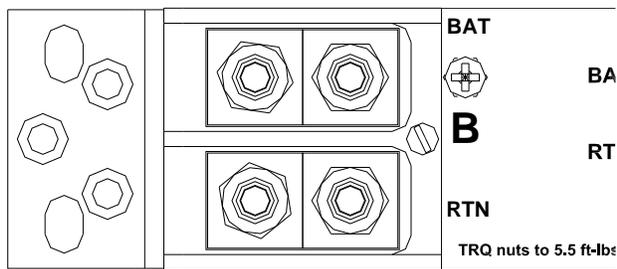

Figure 4.4.1
4.4. Remove the distribution fuse feeding the input cables that are to be connected to the new panel. Attach the input cables to the input terminal block in accordance to the National Electrical Code, ANSI/NFPA, and Canadian Electrical code. Hook up the input cables to the input terminal block on the fuse panel (“BAT” & “RTN” for each bus). Each high current input terminal uses a two hole compression lug (1/4” on 5/8”, torque to 5.5 ft-lbs). a two hole lug must be used for proper operation (see fig 4.4.1)